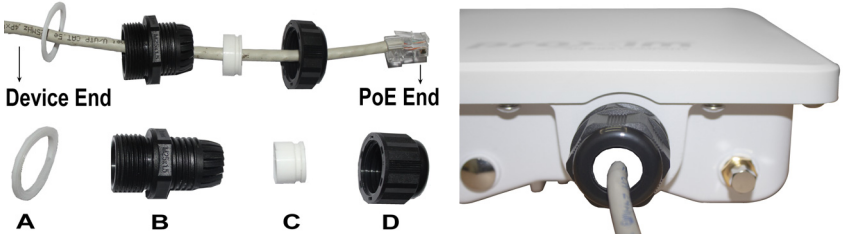

Figure 2: Weatherproofing RJ45 Connection
2. Insert the CAT5e cable through the Sealing Nut (D) and install the Compression Washer (C) to the cable. Compression Washer (C) has a slit in the middle for quick installation onto the cable.
3. Install the parts (D) and (C) in the direction as shown in Figure 2.
4. Insert the Flat Washer (A) onto the Connector Body (B) and then insert the CAT5e cable through the Connector Body (B).
8. Slide and Insert the Compression Washer (C) into the Connector Body Assembly.
9. Fasten the Sealing Nut (D) to the Connector Body Assembly and fully tighten it to weatherproof the cable.